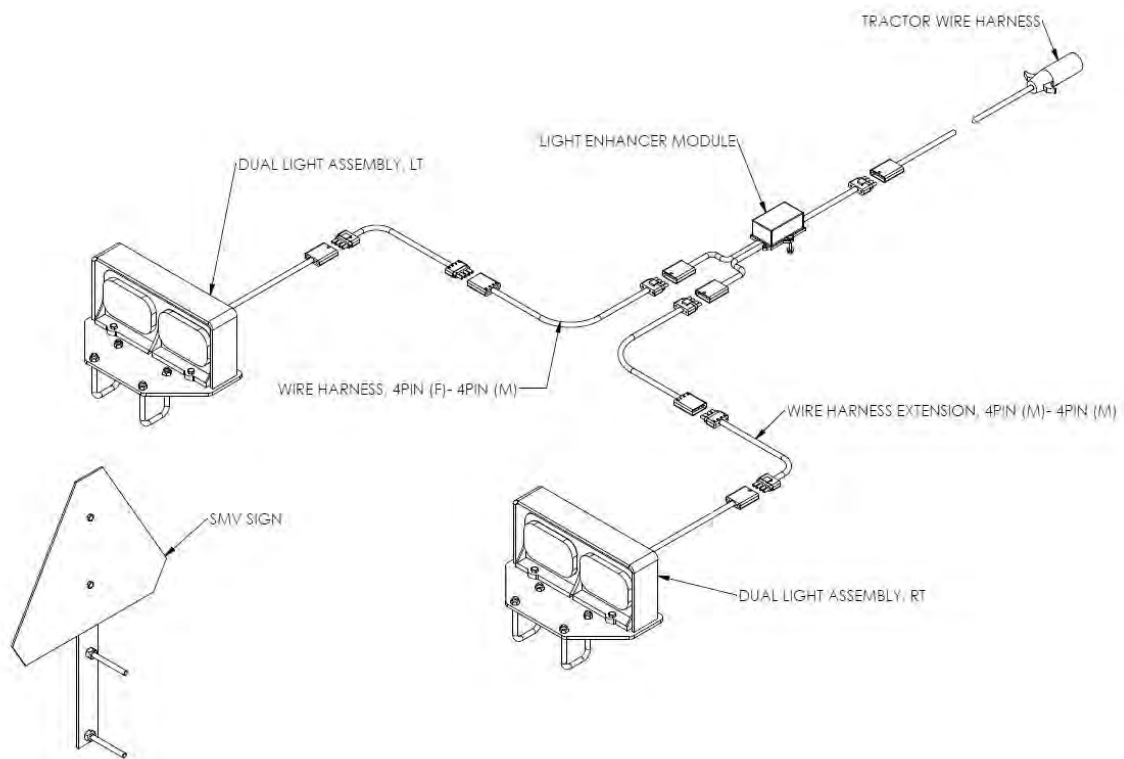

Figure 22a
6. Attach Light Enhancer Module to Frame Light Mount using the 3/8 x 5.5 bolts, washers, and hex nuts. ** SEE FIGURE 22a***
8. Connect female end of Light Enhancer Module to the 4Pin (F) - 4Pin (M) Wire Harnesses.
9. Connect the 4Pin (F) - 4Pin (M) Wire Harnesses to the Wire Harness Extensions.